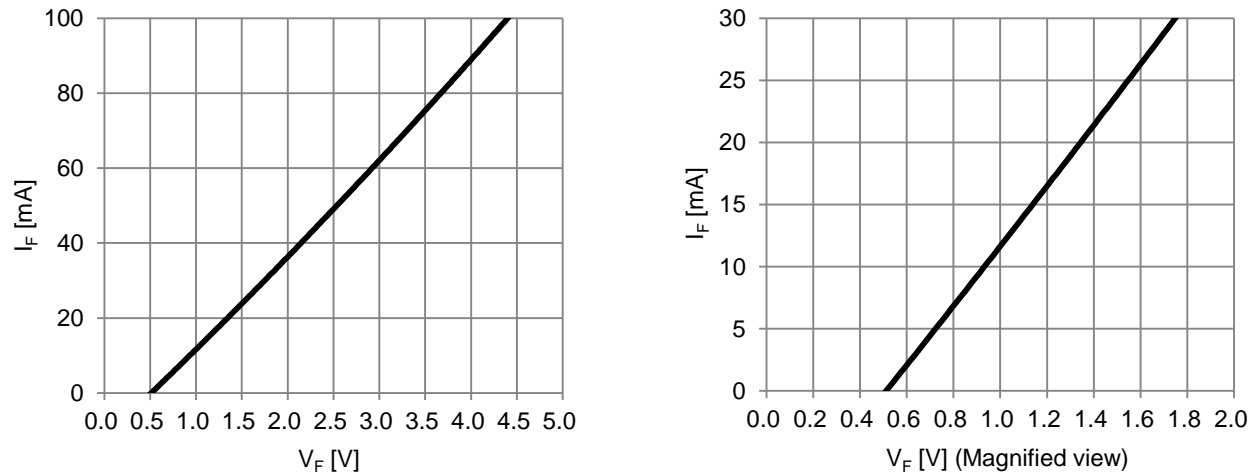

Figure 2. Built-in Bootstrap Diode V_F - I_F Characteristic (@ $T_A=25^\circ\text{C}$)
- The characteristics of bootstrap diodes are described in Figure 2.